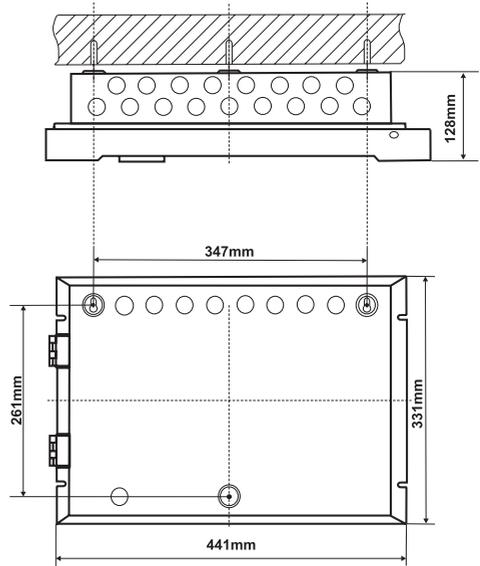

Figure 5.
- Drill $\text{Ø}6\text{-}8\text{mm}$ diameter openings in the wall and fix the box using the provided anchors and screws (Positions 2 and 6, page 31) - Figure 5.